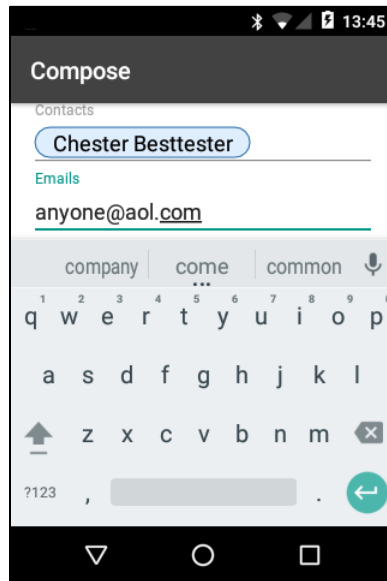

*Figure 22: Compose and Select Contact Option*
1. Tap the **Contacts** field. Contacts which have been entered in the SHOUT App appear in alphabetical order, as shown in **Figure 22**.